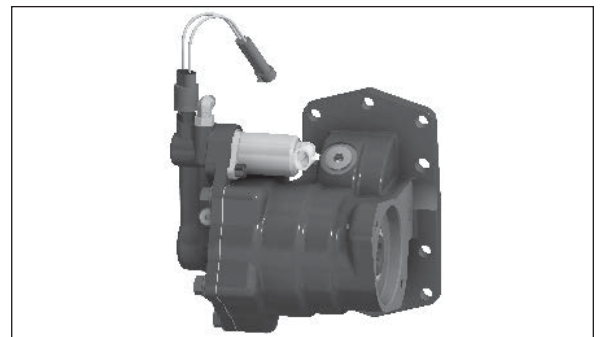

Figure 9
2. Install the PTO pressure switch onto port on the hydraulic valve cap. Torque to 10-12 lb-ft [13-16 N-m] (**Fig. 9**).